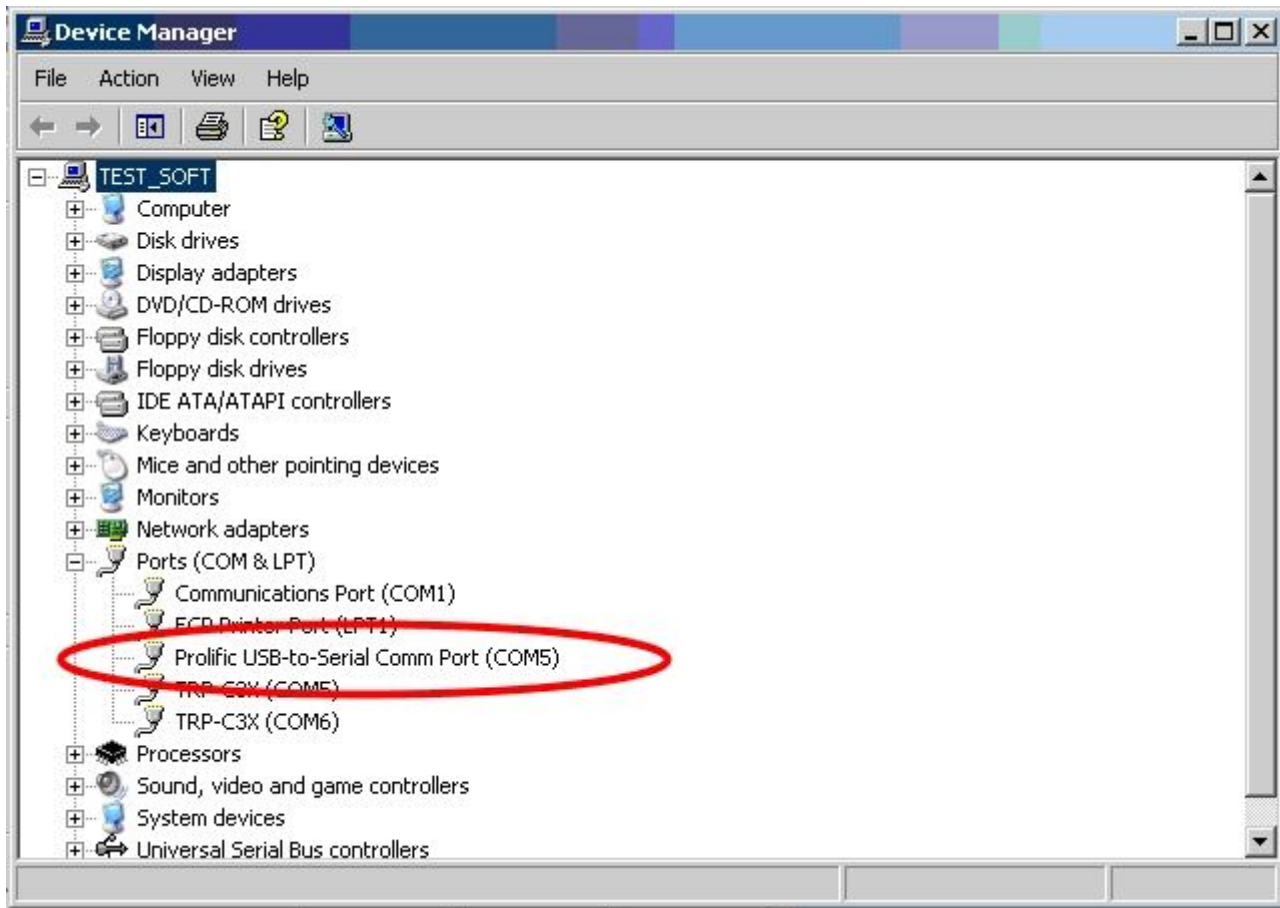

Fig.4
5.After installation user may verify if TRP-C08 was properly installed by Click Start – Setting -- Control panel -- double click system icon – Hardware Device Manager -- Double click on ports (COM&LPT) .(See Figure 4)